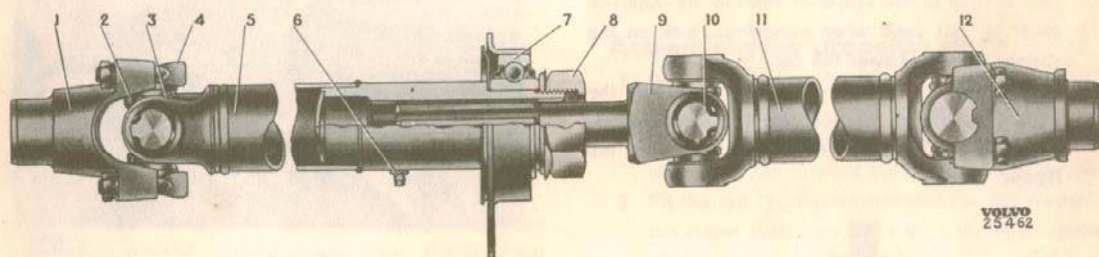

Fig. 4-1. Propeller Shaft
The propeller shaft on the P 1800 is of the divided, tubular type, see Fig. 4-1.
1. Jack up the car and block up the front and rear axles. Loosen the clamps retaining the rear universal joint to the rear axle flange (12, Fig. 4-1). Release the lock washer and remove the nut (8). Pull out the propeller shaft to the rear.
2. Fit the nut (8), the washer and the felt washer on the spline shaft, see Fig. 4-8. Lubricate the surface of the slip joint with a thin layer of molybdenum disulphide. Fit together the forward and rear sections of the propeller shaft. **NOTE.** Make sure that the yoke on the forward section of the propeller shaft and the yoke on the spline shaft are correctly lined up, see Fig. 4-1.
Faulty assembly.	Study the instructions for assembly and fitting. Compare the relative positions of the universal joints with Fig. 4-1.